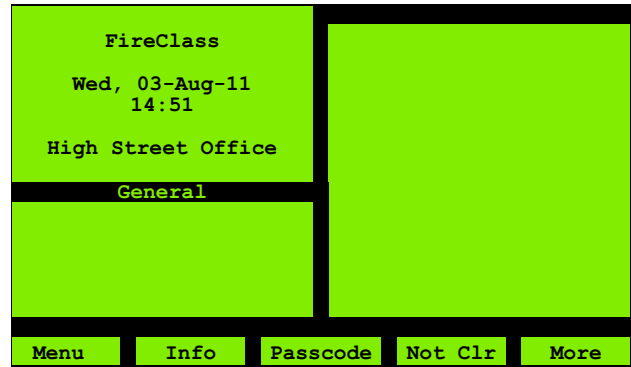

Fig. 2: Normal Operation
When the controller is initially powered up, with no faults or alarms in the system and the Enable Keyswitch is in the **OFF** (0) position, the LCD displays a screen of the type shown in Figure 2.
The top-left area of the screen is the Fire window (see below). If there are no alarms (as in Figure 2), the Fire window features the following items:
- The “panel text” (this is configurable, being set to **High Street Office** in Fig 2, as an example).